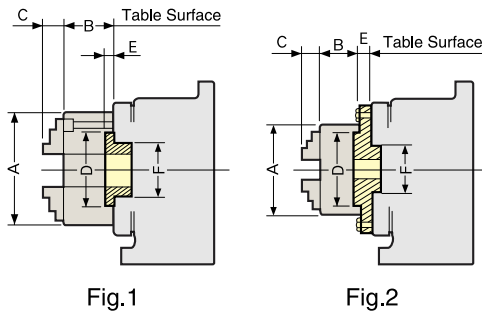

Fig.1
- Scroll Chucks with chuck plate marked \* are NIKKEN Scroll Chuck of Front Mounting (Fig.1)